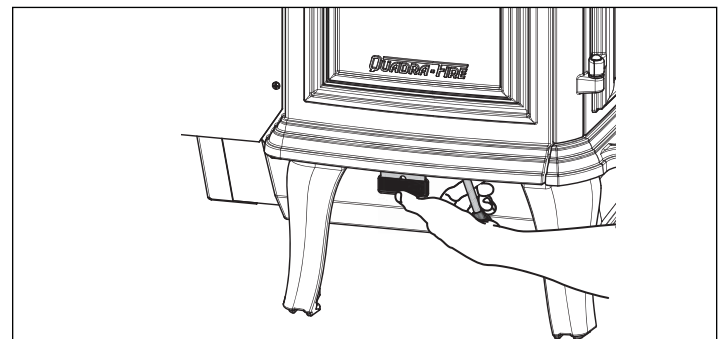

Figure 15.1
- The stove and ashes must be completely cooled down before using the Ash Removal System. Reach down and locate the ash removal door handle under the left side of the stove in the center. Grasp the handle with your fingers and place your thumb on the latch release (**Figure 15.1**). Press the latch release inward. Keep the latch release pressed in and lower the handle gently. Take your thumb off the release once the handle is clear of the latch and guide the handle back until it stops.